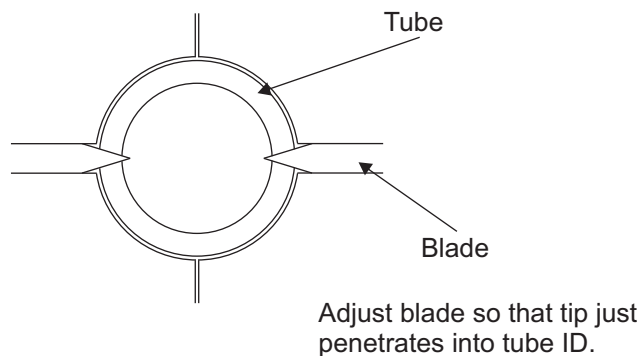

FIGURE 3.
- Blades are factory set to standard tube/cable wall thickness. If the tube/cable you are slitting is not standard, adjust blades per Fig.3